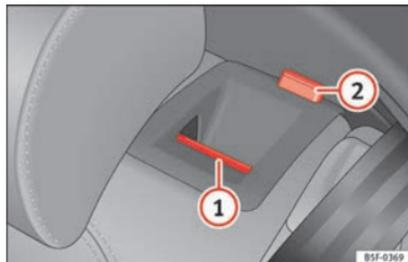

Fig. 152 On the rear seat backrest: release catch ①; red mark ②.
- Push the unlock button »» Fig. 152 ① forwards and at the same time lift the backrest.
- The rear seat backrest is not engaged when the red marking of the button ② is visible.
The rear seat backrest is not engaged when the red marking of the button » Fig. 152 ② is visible.